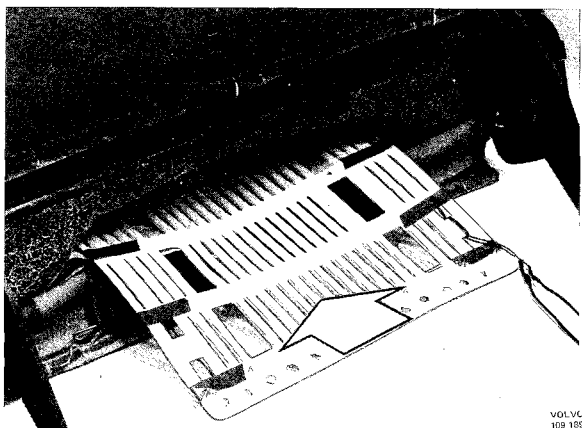

Fig. 8-62. Installing seat back heater pad
- 10. Install the seat back heater pad. NOTE: The barbs on the heater pad should face the stuffing and the heater pad electric wires should be routed towards the inboard side of the cushion, see Fig. 8-62.